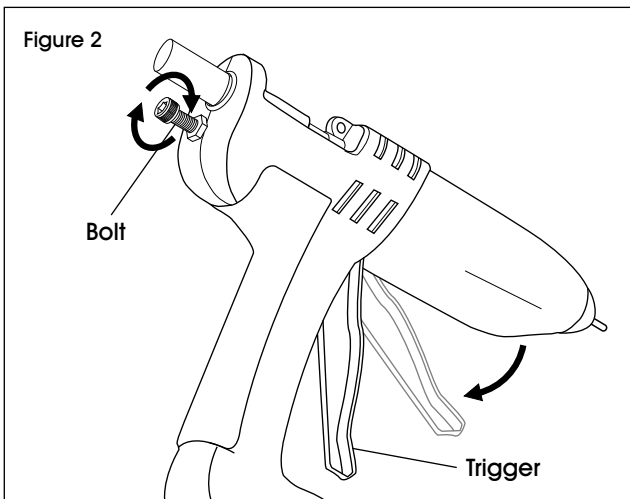

Figure 2
4. Operate the trigger to feed the glue stick forward until resistance is felt. Use provided bolt to adjust output of glue per stroke. (See Figure 2)